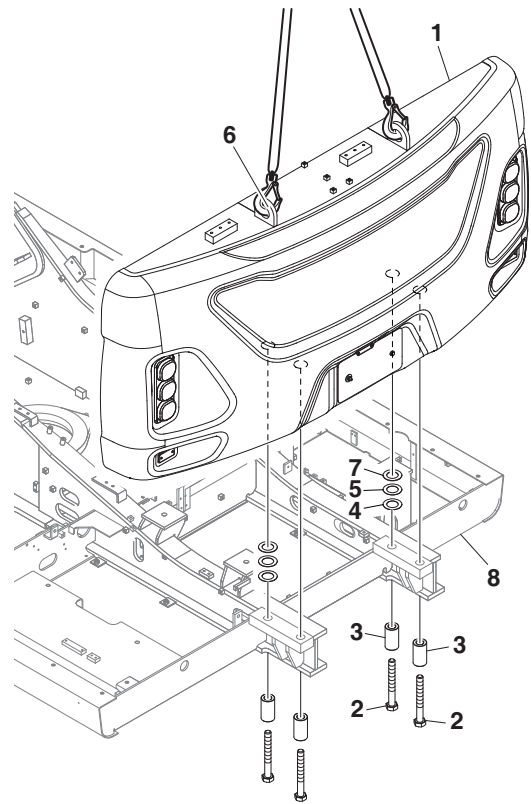

Figure 3
12. Using a suitable lifting device capable of handling a heavy load, partially support counterweight from lifting holes (6, Figure 3), counterweight (1) before loosening four bolts (2). Stop lifting with assist crane as soon as lifting slings are taut.
13. Remove four bolts (2, Figure 3), spacers (3) and washers (4, 5 and 7) from counterweight (1).
14. When bolts (2, Figure 3), spacers (3) and washers (4, 5 and 7) have been removed, lift counterweight (1) a very short distance above support frame (8) and stop. Check slings and make sure counterweight is being supported evenly.